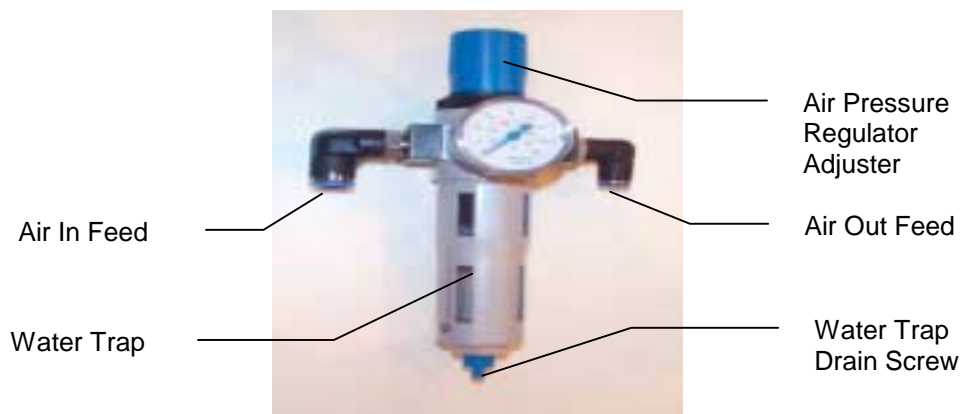

Figure 8.24 Air Regulator and Filter Unit Assembly
3. If the system is fitted with an air regulator/lubricator/filter unit, adjust the pressure setting and fill with oil as described below. Refer to Figure 8.24.
4. Check that the water trap is empty. Empty it by unscrewing the drain screw. Refer to Figure 8.24.